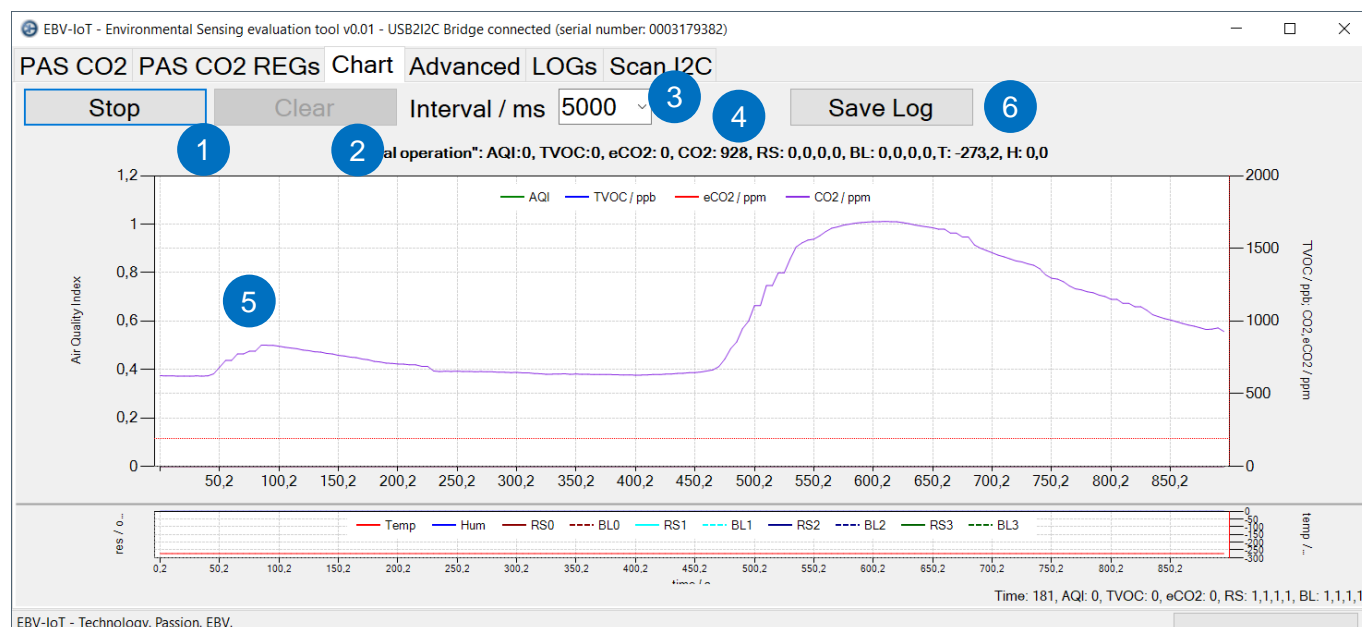

Figure 17: Chart tab
The “Chart” tab (Figure 17) displays a chart of continuous sensor values readouts. The acquisition is started/stopped by clicking “Start/Stop” button (1) and sampling interval is set by using dropdown menu (3). The values are displayed in a chart title (4) and in a chart (5) as color coded lines. The chart can be cleared by clicking “Clear” button (2). Sensor values can be saved (6) to “CSV” file for further processing and displaying with e.g. Excel.